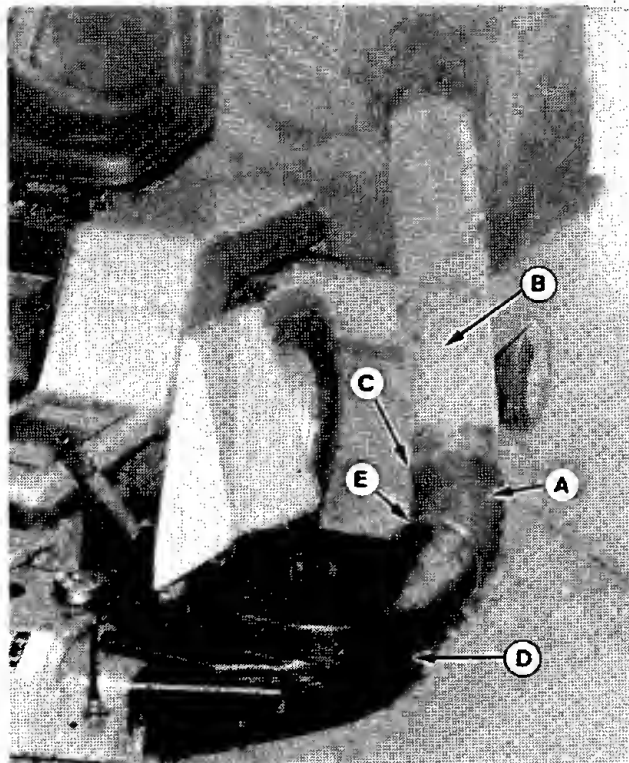

Figure 15.
1. Attach the hose (A, figure 15) to the tube (B) by installing four #10-32x1/2 trusshead screws from inside, and then installing four #10 washers and locknuts (c) on the outside.
2. Insert the tube (B) fully into connecting sleeve in the cart. (Installation of sleeve is covered in the manual supplied with wide body cart collector.)
3. Attach the hose (A) to the blower (D) with clamp (E) and tighten clamp securely.